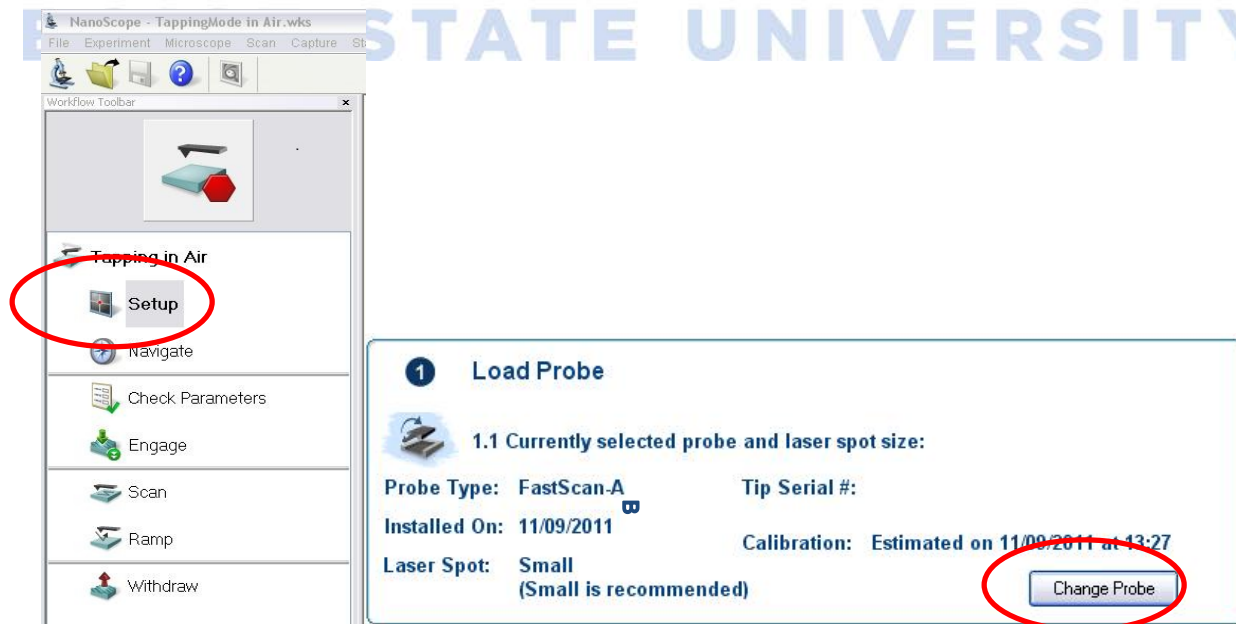
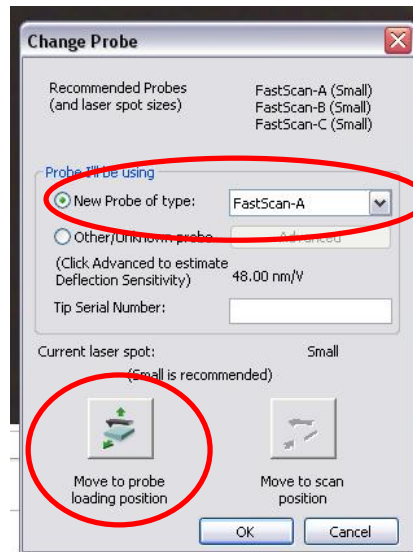

Figure 3. Workflow Toolbar column with Setup circled (left). Within Setup, the Load Probe option with the Change Probe button circled (right).
Figure 4. The Change Probe dialog box.
- a. Select “Setup” in the Workflow Toolbar column. Click “Change Probe” (**Figure 3**).
- b. The “Change Probe” dialog box will appear. Click the “Move to probe loading position” icon (**Figure 4**). This will move the stage away from the head so the probe holder can be safely loaded.
- c. Select the type of probe being loaded (e.g., FastScan D) from the “New Probe of type” dropdown menu (**Figure 4**).
- d. Ensure the laser spot size selected via the switch on the right side of the FastScan head matches the size “recommended” in software for your chosen probe type (**Figure 3** and **Figure 4**).
13. Ensure the probe type selected in software matches the one you are using (**Figure 3**).